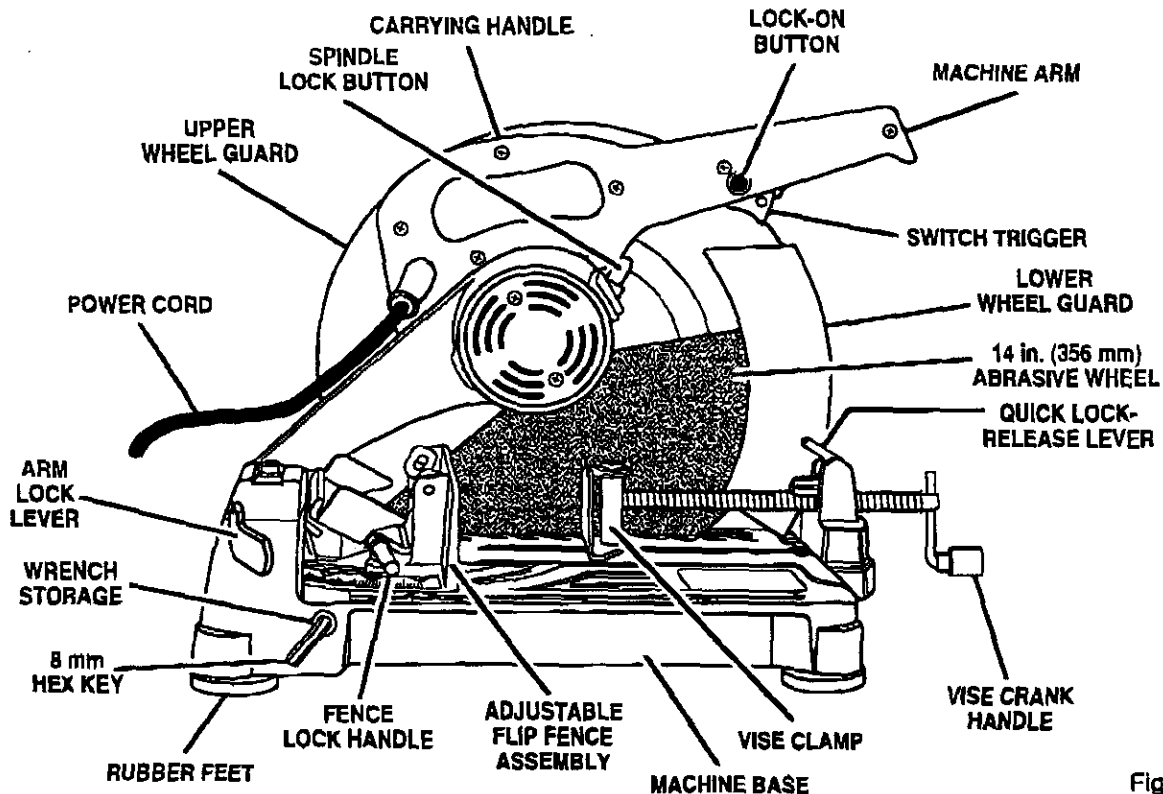

Fig. 3
- Your cut-off machine has been shipped with the machine arm locked in the down position. To release the arm, push down on top of the machine arm and pull the arm lock lever. *See Figure 3.*
See Figure 3.
For convenience when carrying or transporting your cut-off machine from one place to another, a carrying handle has been provided on top of the machine arm as shown figure 3. To transport, turn off and unplug your machine, then lower machine arm and lock it in the down position. Lock machine arm by pushing in arm lock lever.